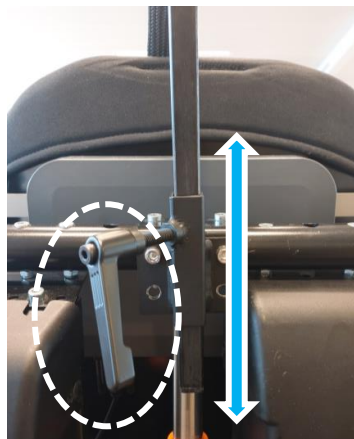

Figure 10. 16 x 16 mm square holder.
2. Install the vertical adjuster of CoMoveIT Smart to the holder of the back of the wheelchair seat and tighten the rotary knob. CoMoveIT Smart can fit in any 16 x 16 mm square holder. See Figure 10. CoMoveIT offers a specific mounting clamp for Permobil and Ottobock wheelchairs, that might fit other wheelchair brands as well. The mounting clamp must be purchased separately from your device.